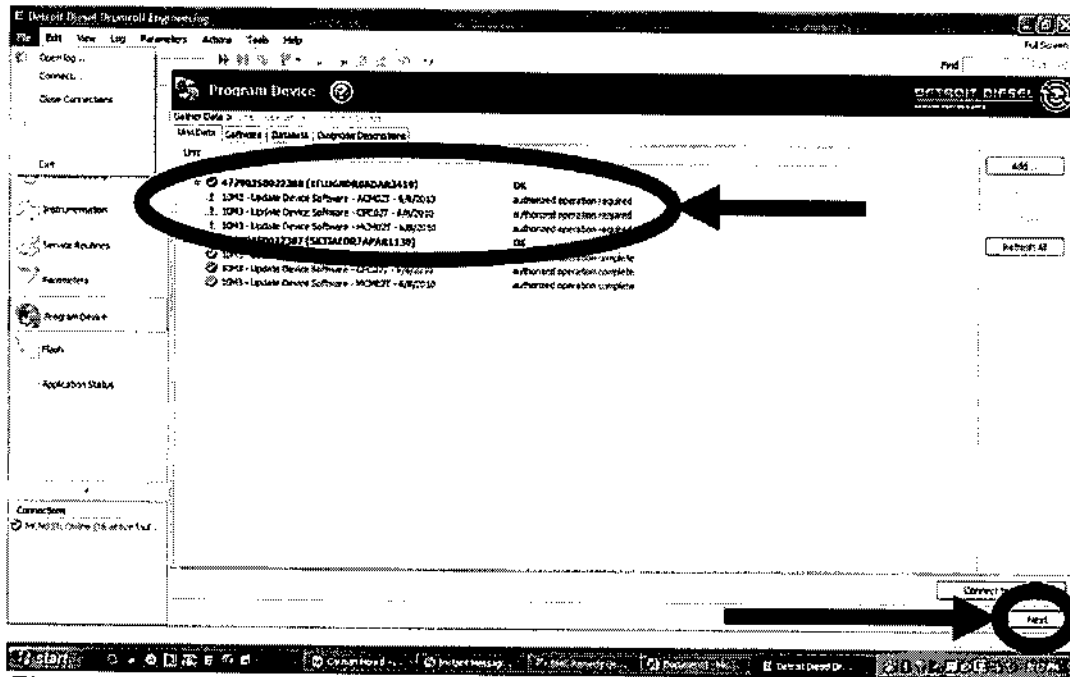

Figure 2 – Engine Serial Number Information
- When an engine eligible for this Modification is successfully added, you will see a screen similar to Figure 2. Note the green check mark for example engine serial number 472903S0022388, the yellow exclamation points for the ACM, CPC, and MCM, and the remarks stating something similar to "11C4 – Update Device Software" and "authorized operation required". Click the "Next" button in the bottom right corner.
11. You will now be at the screen in Figure 2. Click the “Next” button in the bottom right corner.
14. You will now be at the screen in Figure 2. Click the “Next” button in the bottom right corner.